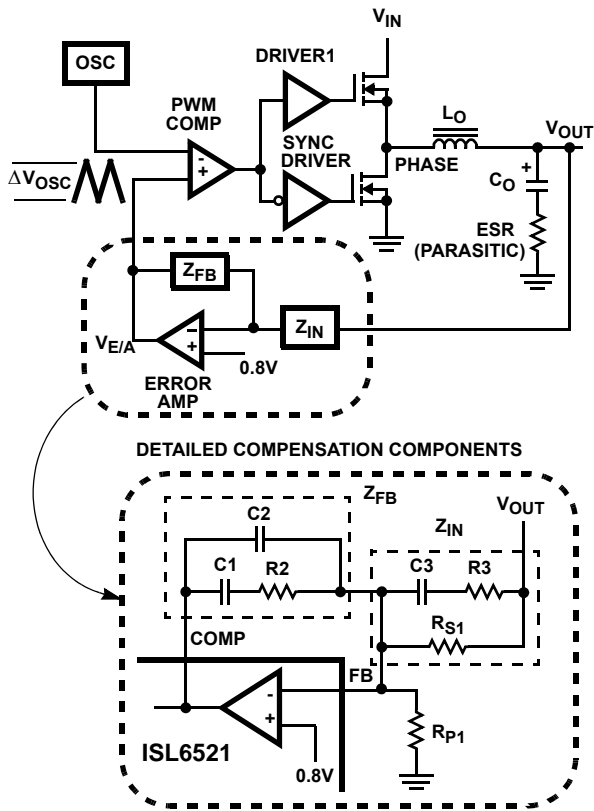
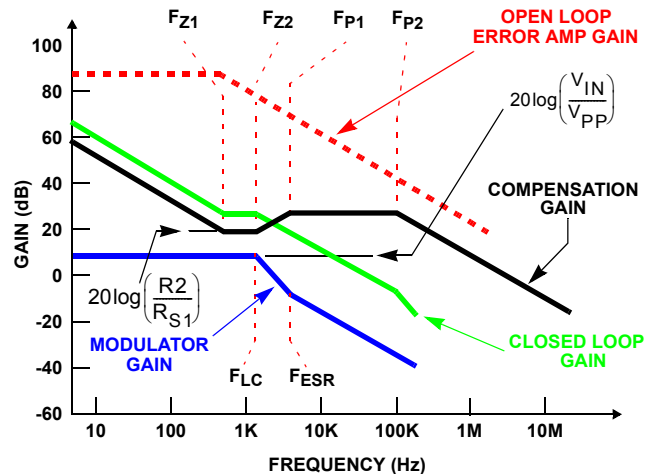

FIGURE 5. VOLTAGE-MODE BUCK CONVERTER COMPENSATION DESIGN
FIGURE 6. ASYMPTOTIC BODE PLOT OF CONVERTER GAIN
Figure 5 highlights the voltage-mode control loop for a synchronous-rectified buck converter. The output voltage (V_{OUT}) is regulated to the reference voltage level, 0.8V. The error amplifier (Error Amp) output ($V_{E/A}$) is compared with the oscillator (OSC) triangular wave to provide a pulse-width modulated (PWM) wave with an amplitude of V_{IN} at the PHASE node. The PWM wave is smoothed by the output filter (L_O and C_O).
and Z_{FB} . The goal of the compensation network is to provide a closed loop transfer function with high 0dB crossing frequency (f_{0dB}) and adequate phase margin. Phase margin is the difference between the closed loop phase at f_{0dB} and 180 degrees. The equations below relate the compensation network's poles, zeros and gain to the components (R_1 , R_2 , R_3 , C_1 , C_2 , and C_3) in Figure 5. Use these guidelines for locating the poles and zeros of the compensation network:
Figure 6 shows an asymptotic plot of the DC-DC converter's gain vs. frequency. The actual Modulator Gain has a high gain peak dependent on the quality factor (Q) of the output filter, which is not shown in Figure 5. Using the above guidelines should yield a Compensation Gain similar to the curve plotted. The open loop error amplifier gain bounds the compensation gain. Check the compensation gain at F_{P2} with the capabilities of the error amplifier. The Closed Loop Gain is constructed on the log-log graph of Figure 6 by adding the Modulator Gain (in dB) to the Compensation Gain (in dB). This is equivalent to multiplying the modulator transfer function to the compensation transfer function and plotting the gain.